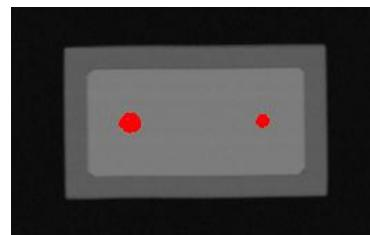

Figure 13 Successful block test.
- 10** Check if the test was successful: the SensorX screen shows two “holes” in the block (see Figure 13), and the block is then caught in time by the SensorX reject mechanism.